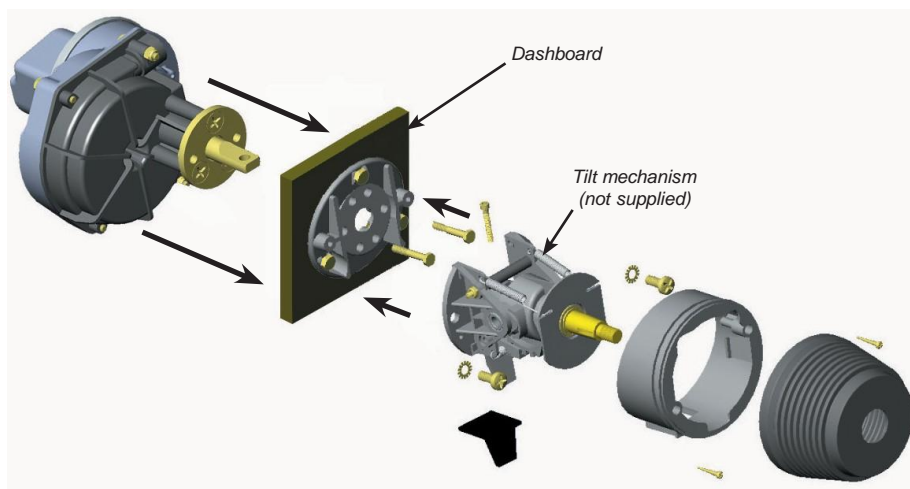

Fig B19 - Mounting drive unit to dashboard bezel plate
- i) Position the drive unit behind the dashboard and bolt it to the bezel plate using the 2 x 1/4x1.5 bolt supplied (Fig B19). Tighten and torque to 30-35in-lbs.